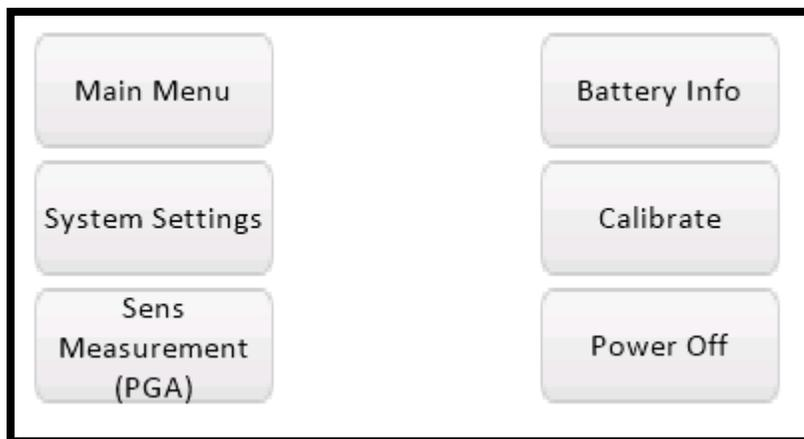

Figure 18. MAXREFDES183# Special Functions.
22. After clicking the Maxim logo, an extra menu (**Figure 18**) will be displayed: